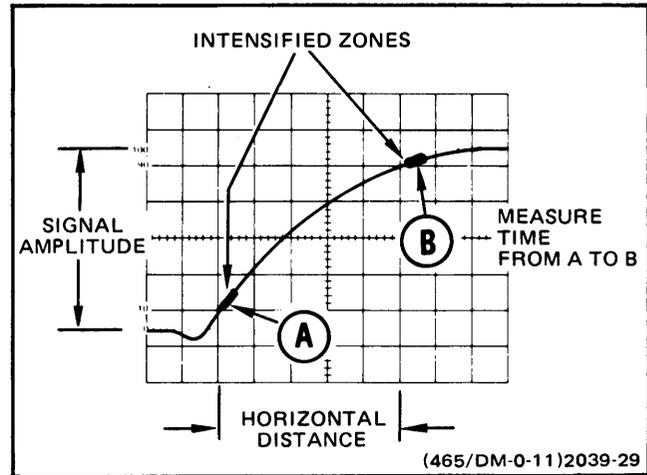

Figure 26. Rise time.
3. Vertically position the trace so that the zero reference of the waveform touches the 0% graticule line and the top of the waveform touches the 100% graticule line (see Figure 26).
4. Set the A TIME/DIV switch for a single-event display, with the rise time spread horizontally as much as possible. Horizontally position the display so the 10% point of the waveform intersects the second vertical graticule line (see Figure 26).
6. Use the DELAY TIME POSITION control to move the start of intensified zone (left-hand edge) until it just touches the intersection of the signal and the 10% graticule line (see Figure 26, Point A).
8. Use the DELAY TIME POSITION control to move the start of the intensified zone until it just touches the intersection of the signal and the 90% graticule line (see Figure 26, Point B).
EXAMPLE: The A TIME/DIV switch is set to 1 μ s. The DELAY TIME POSITION dial setting at Point A is 2.50 and the DELAY TIME POSITION dial setting at Point B is 7.50 (see Figure 26).